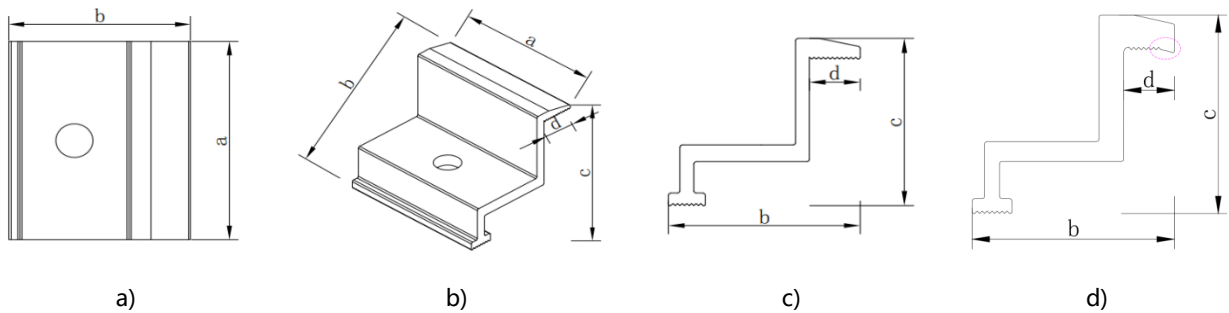

Figure 6 Recommended clamp schematic
The clamps must not be installed in contact with the front glass of the module and must not deform the module frame. Recommended clamp schematic shown as followed (see Figure 6). Ensure that the clamps do not create a shadow on the module. Under no circumstances may the frame be altered. When choosing the mounting method for the clamps, make sure that there are at least four clamps on each module. Different mounting positions of the clamps determine the maximum load capacity of the module. Table 5-7 as followed show the different mounting methods and the positions of the clamps for the different mounting methods. The distance between the installation position of the long-side clamp and the edge is represented by L in Table 5-7. The distance between the installation position of the short-side clamp and the edge is represented by S in Table 5-7.
- Oversized modules (size over 2.2m*1.3m) are recommended to be mounted with the camber clamps shown in Fig. 6 d), which enables the clamps to fit better with the frame and provide more stable performance under extreme environmental conditions.